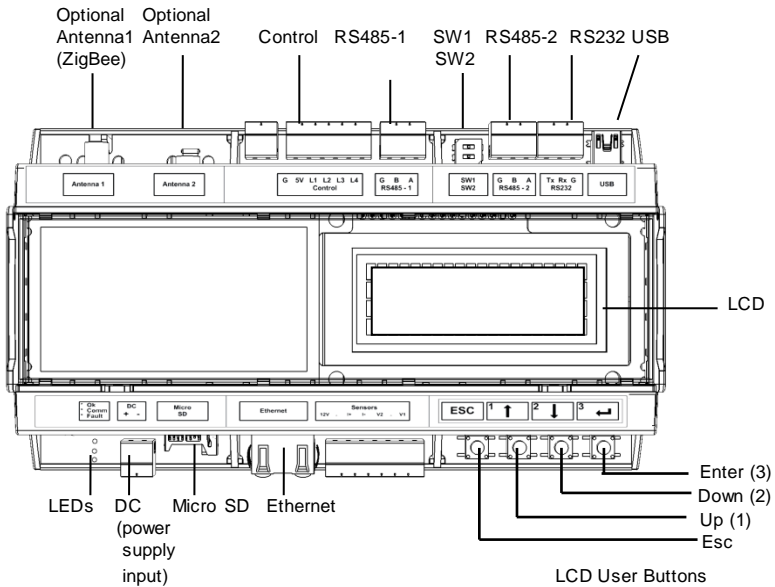

Figure 3: Gateway Interfaces
Four buttons are used for controlling the LCD menus (see Figure 3).
- 1 Insert the power supply DC connector to the SolarEdge gateway (see Figure 3).
- 2 Connect the power supply to the AC mains. The LEDs are lit momentarily to indicate power connection (see Figure 3)